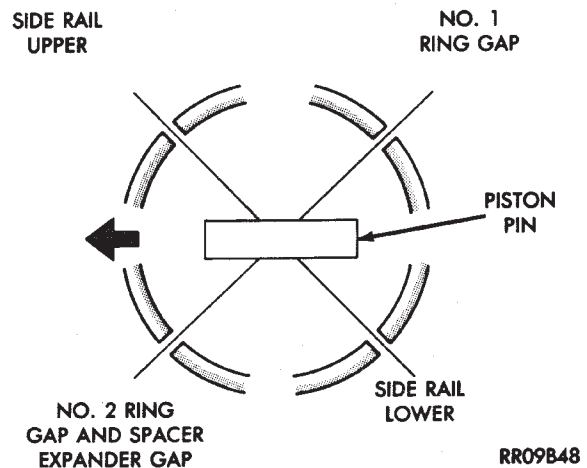

Fig. 12 Piston Ring End Gap Position
- (10) Position piston ring end gaps as shown in (Fig. 12).
- (11) Position oil ring expander gap at least 45° from the side rail gaps but **not** on the piston pin center or on the thrust direction. Staggering ring gap is important for oil control.